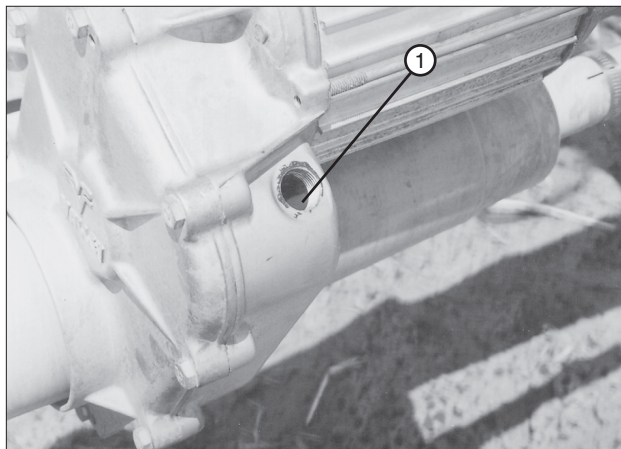

Figure 90-2 1. Bottom Of Fill Plug Hole
2. Fill the gearbox 1-7/8 in (48 mm) from the bottom of fill plug hole with Valley Gear Lube. The capacity of the gearbox is approximately 44 oz (1.3 liter). See figure 90-2.